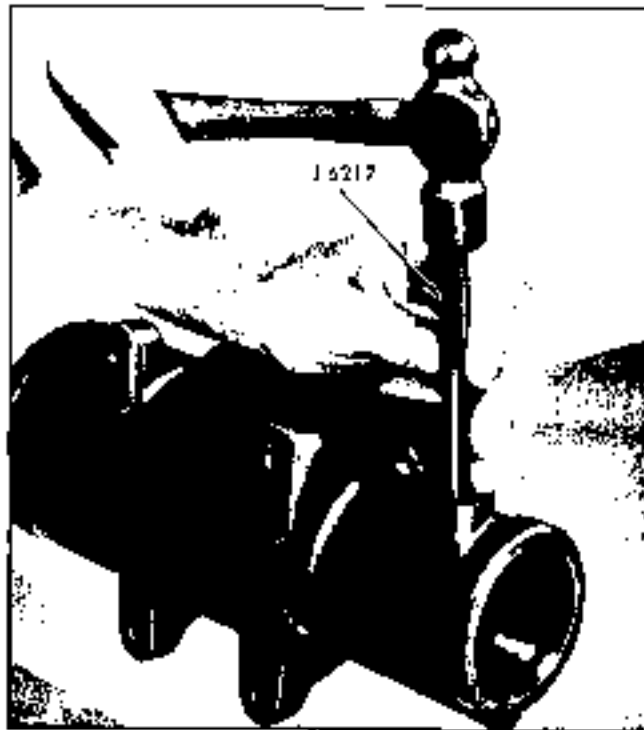

Fig. 9-72 Installing Connector Using J 6217
4. If connectors were removed, install new connectors by driving into place with tool J 6217 (Fig. 9-72).